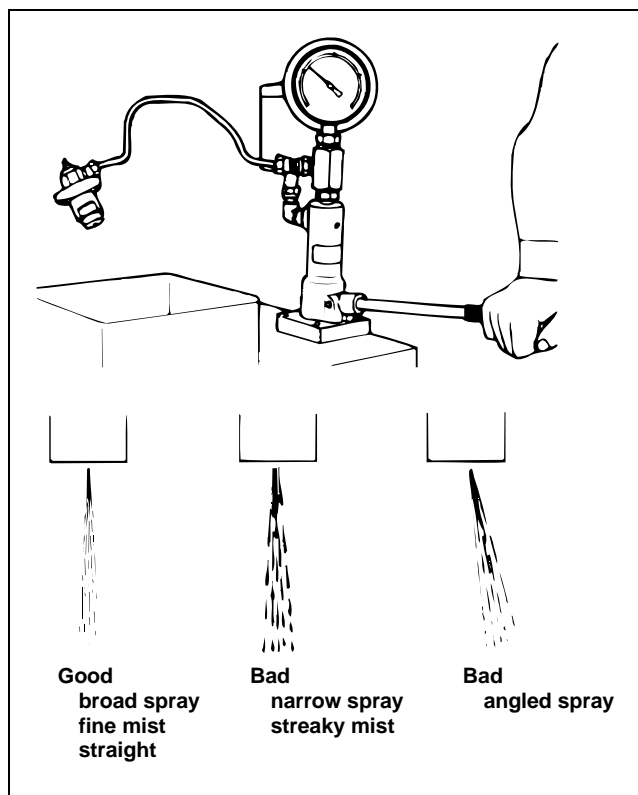

Figure 36
2. Observe the injector nozzle spray. The spray pattern should be finely atomized in a broad, straight stream (Fig. 36).